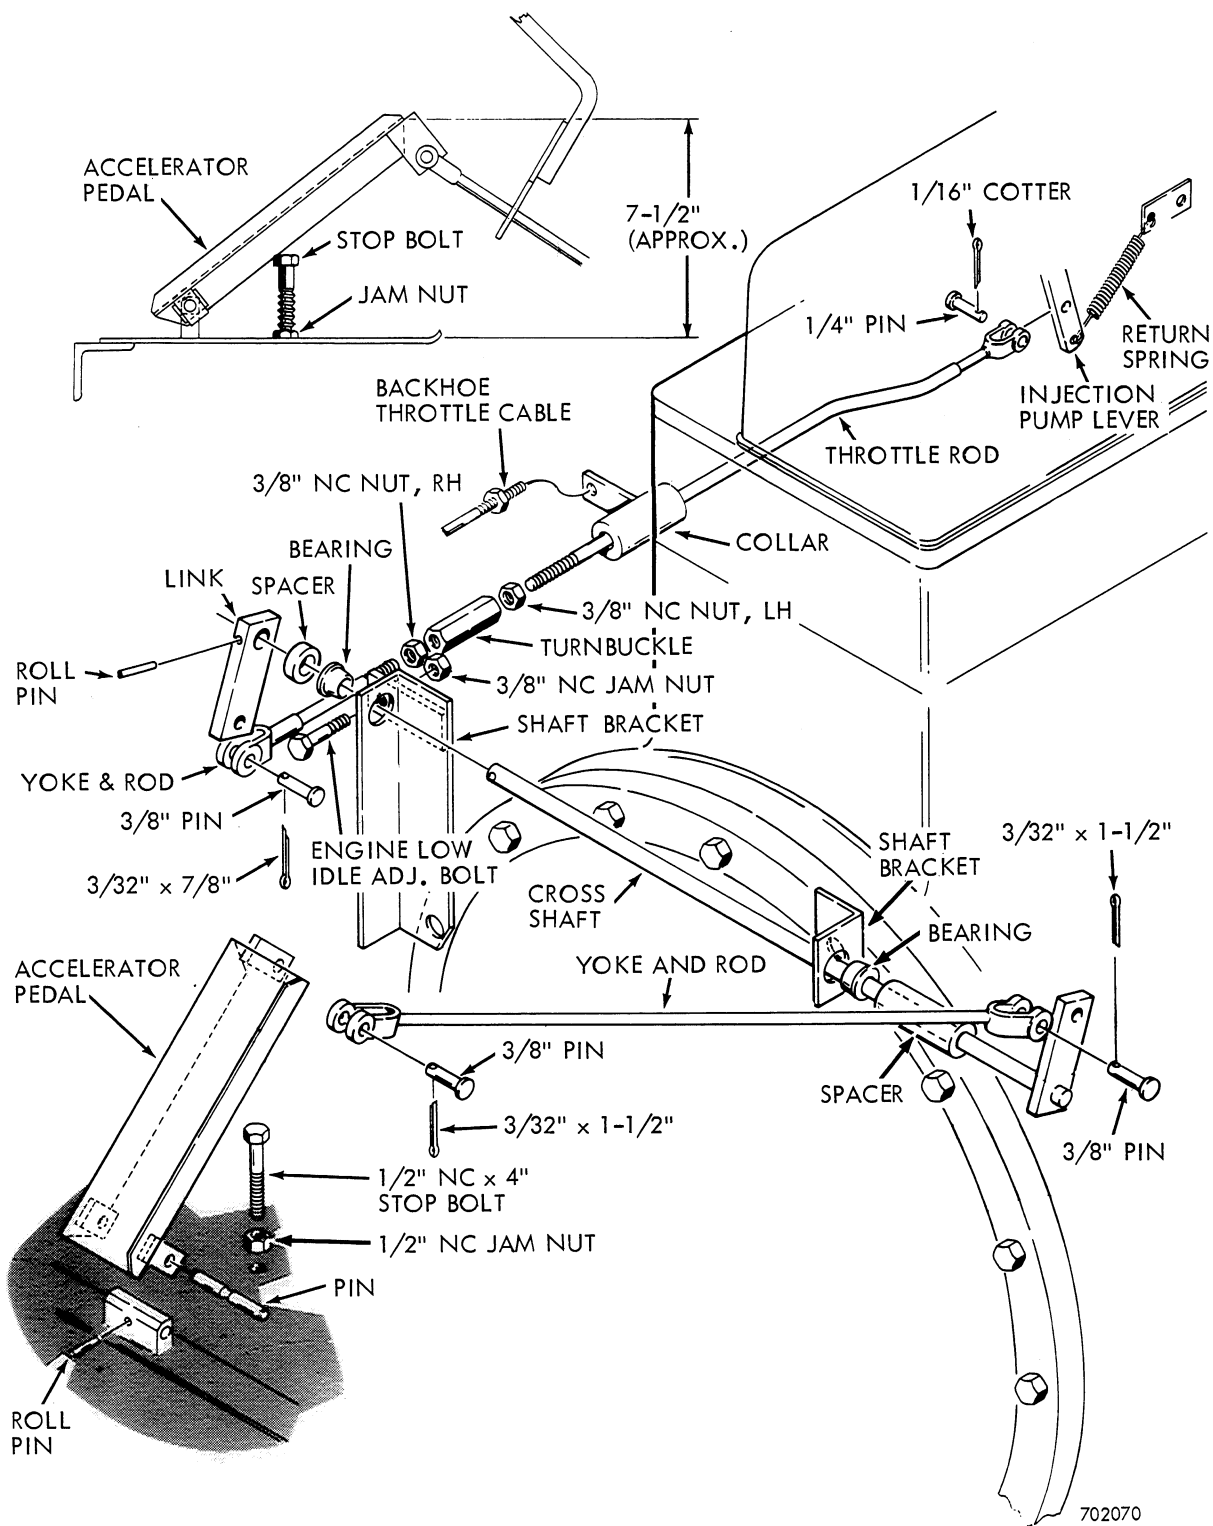

Figure 2 - Exploded View of Accelerator Linkage
cations by turning the adjustment bolt at left rear of engine, Figure 2.
- b. Check accelerator pedal for the 00" dimension shown in Figure 2. If required, adjust the linkage. Recheck low idle speed and adjust, if necessary.
- c. Adjust stop bolt, Figure 2, to contact accelerator pedal at high idle.